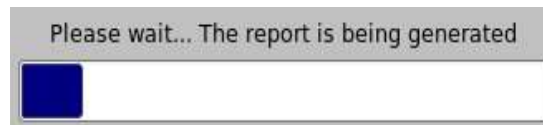

Figure 101: Log Report Generation Progress Bar
- Click OK to generate a log report (Figure 101).